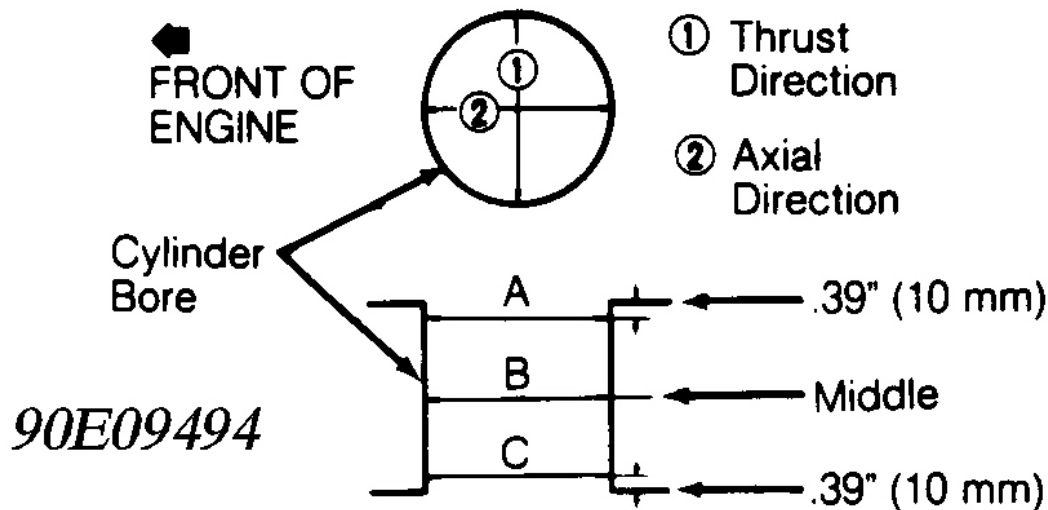

Fig. 17: Measuring Cylinder Bore Diameter
2. Measure cylinder bore diameter in thrust direction. See **Fig. 17** . Subtract piston diameter measurement from cylinder bore diameter measurement. Piston clearance should be within specification.